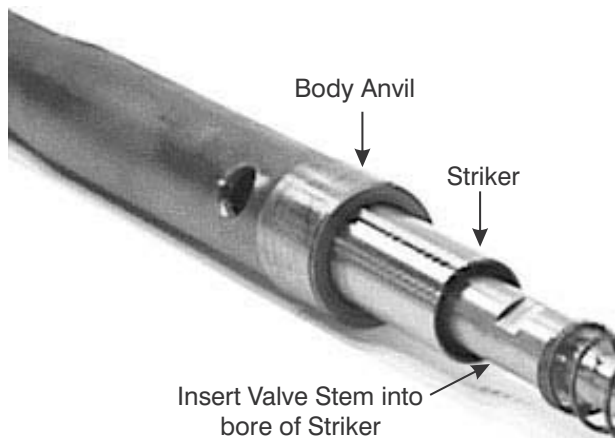

Figure 9-26. Insert Valve into Striker.
5. Insert the Valve (3) into the end bore of the Striker (2) and thread the End Cap (9) into the Body/Anvil (1). Refer to Figure 9-26.